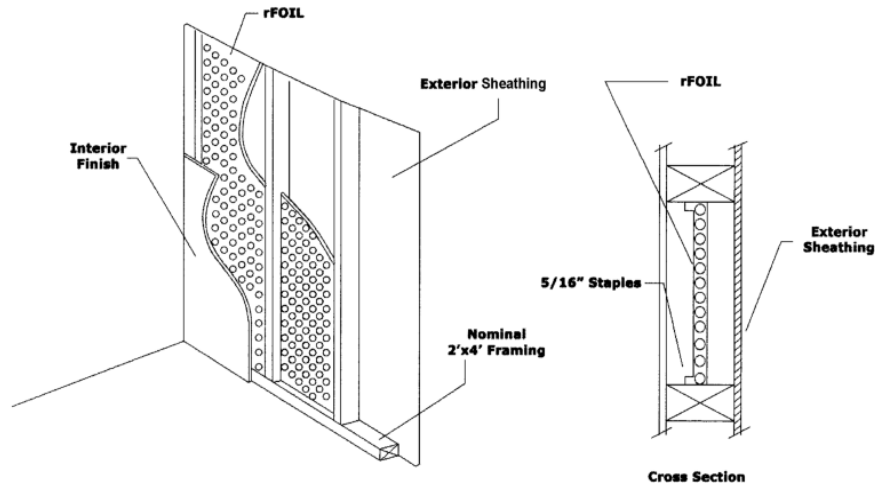

FIGURE 1—WALL CAVITY APPLICATION
4.1.2.1 Wall Cavity Application: rFOIL™ insulation is placed on the inside of the stud cavity and stapled at the midpoint of the 3 1/2-inch (89 mm) side of 2-by-4 wood studs spaced at 16 inches (406 mm) on center. The insulation forms two 1 5/8-inch-deep (41.3 mm) air spaces within the cavity. The exterior surface is covered with 1/2-inch-thick (12.7 mm) plywood, complying with and attached in accordance with the applicable code. The interior surface is covered with minimum 1/2-inch-thick (12.7 mm) gypsum wallboard complying with ASTM C1396, attached in accordance with the applicable code. Inside surface-to-surface thermal resistance of the assembly is noted in Table 1 of this report. Thermal resistance of the insulated cavity described in this section is noted in Table 2 of this report. See Figure 1 of this report for an illustration of the assembly.